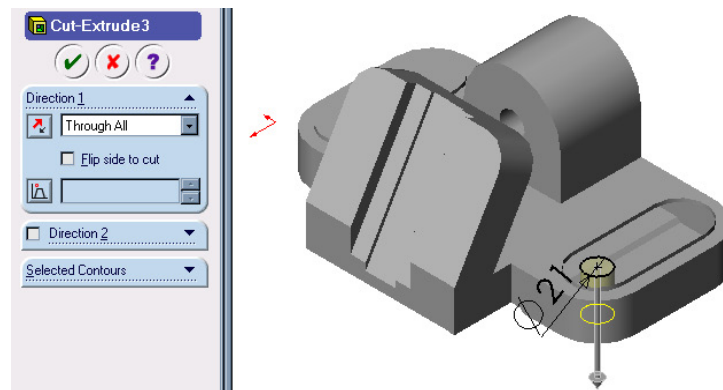

Figure 27 Base holes
15. Select **Extruded Cut**  on Features toolbar. Select **Through All** in the end condition drop down list box as shown in Figure 27.